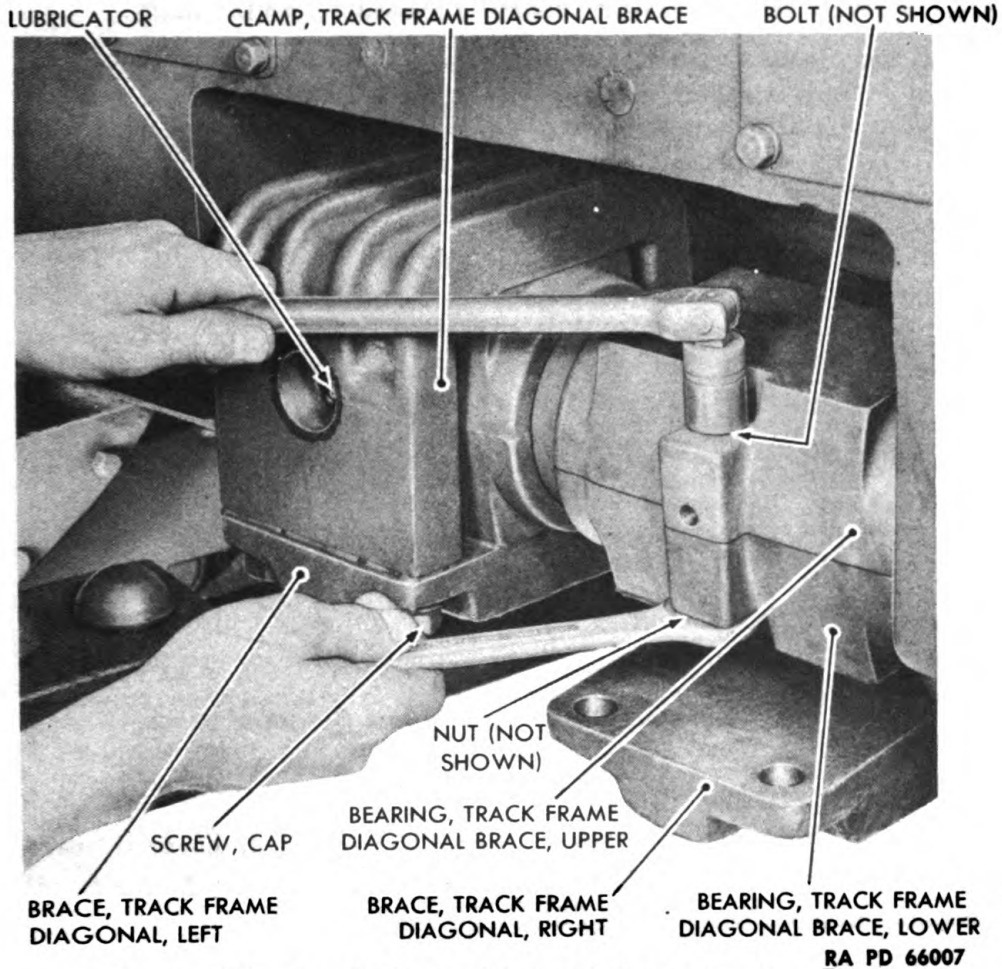

Figure 175 – Track Frame Diagonal Brace Bearings Removal
(2) REMOVE UPPER AND LOWER TRACK FRAME DIAGONAL BRACE BEARINGS (figs. 175 and 176).
(1) **INSTALL RIGHT UPPER AND LOWER TRACK FRAME DIAGONAL BRACE BEARINGS** (figs. 175 and 176). **NOTE:** If diagonal brace only has been removed, this step should be eliminated.
(2) **INSTALL TRACK FRAME DIAGONAL BRACE CLAMP** (fig. 175).
(3) **INSTALL LUBRICATOR** (fig. 175).